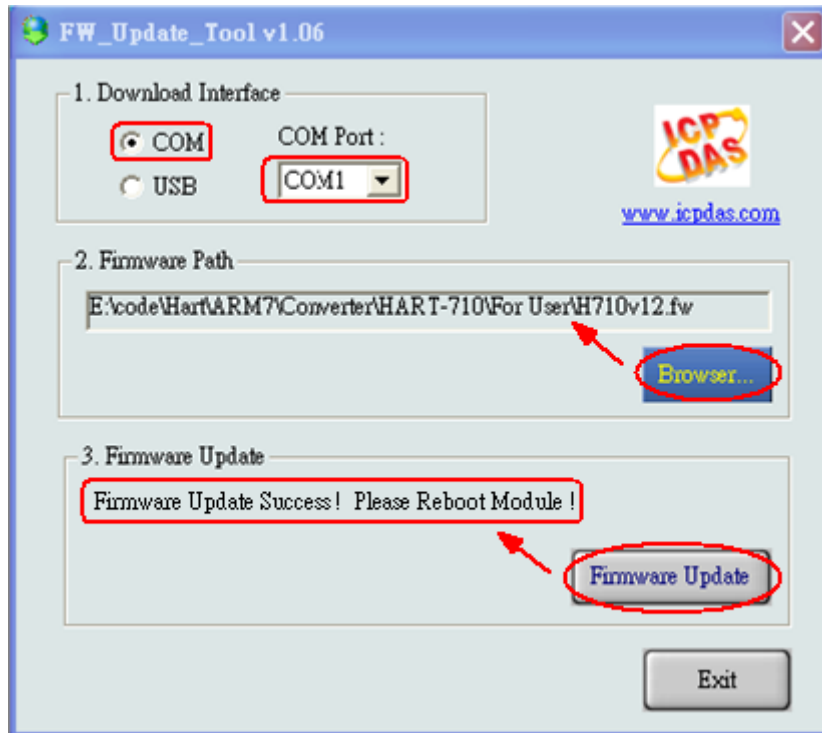

Figure 4-3 “FW_Update_Tool”
- (4) Run “FW_Update_Tool” like Figure 4-3 (Download from : <https://www.icpdas.com/tw/download/show.php?num=4892&model=HRT-710>).